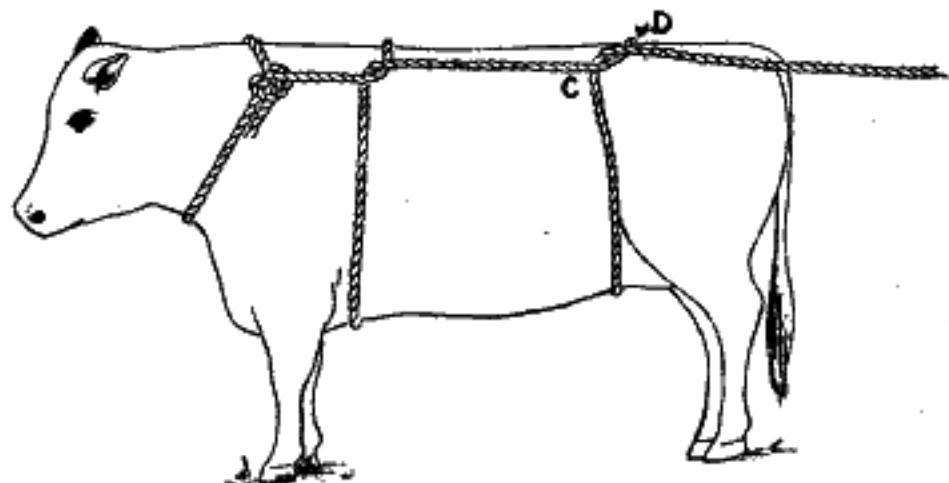

FIG. 360.—A casting tackle for cattle.
**418. Casting Cattle.**—A simple method of casting cattle is shown in Fig. 360. The rope is tied around the animal's neck by means of a bowline. Two half hitches are then taken, one at the front of the body and the other at the rear. The rope at *C* should come in front of the hipbone,